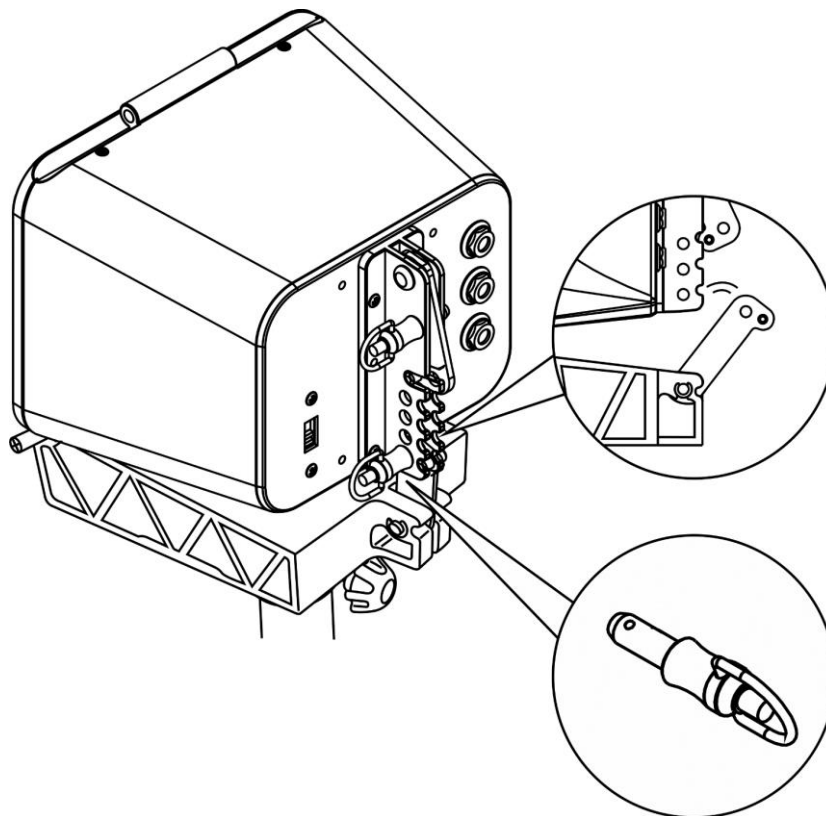

Fig. 08
- 04) Choose the desired directivity angle by inserting the rigging pin into the appropriate slot. Insert the latch, to lock the first Xi-3 speaker (fig. 08). The angle setting has influence on the sound directivity. **This time, please, ignore the angle indicators located on the slots (0/4/8/12°) as they are valid only in case of connecting multiple Xi-3 speakers. In combination with the Mobile Bracket, however, the angle indicators are NOT CORRECT!!!**